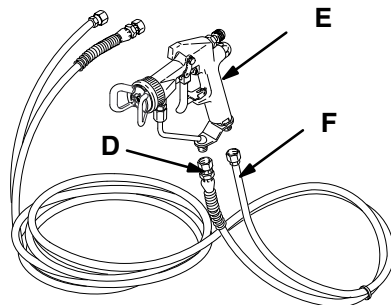

Fig. 6
2. Install a 101–180 Gauge (P) and 100–509 Plug (Q) on a 104–267 Air Regulator (R). Screw a 166–999 Elbow (S) into the outlet port of this air regulator, and screw a 162–453 Nipple (T) into the elbow.
3. Screw the branch of the 103–475 Tee (L) onto the nipple (24) at the air manifold (28). Install a 156–877 Nipple (M) in each open port of the tee. Screw a 158–683 Elbow (N) onto each nipple.
4. Install the air regulator removed in step 1 onto one of the elbows (N). This is the air control for the first gun. Install the air regulator assembled in step 2 onto the other elbow (N), so both regulators are facing the same way. This is the air control for the second gun.
5. Remove the plug (10) from the optional outlet port of the fluid filter (8). Install a 162–453 Nipple (T) in its place. See Detail A of Fig 6. This is the fluid connection for the second gun.
6. Connect the fluid and air hoses to the guns as explained on page 7 (see Detail E of Fig 6).
2. Remove the plug (10) from the top outlet port of the fluid filter (8). Install a 162–453 Nipple (T) in its place. See Detail B of Fig 6.
4. Screw a 103–048 Tee (U) into the optional inlet of the back pressure regulator (40), as shown in Detail D of Fig 6. Install the nipple (11) removed in step 3 in one of the open ports of the tee. Install a 162–453 Nipple (T) in the other open port.
5. Connect the fluid and air lines of one of the insulated hose kits (V) to the fluid and air inlets of one of the guns (E). Repeat for the other hose kit and gun. See Detail F of Fig 6.
6. Connect the air line of one of the hose kits (see Detail F of Fig. 6) to the outlet nipple of one of the air regulators (see Fig 5). Connect the air line of the second hose kit to the outlet nipple of the other air regulator.
7. Connect the fluid supply line of the first hose kit (V) to the outlet nipple (11) of the fluid filter (8). Connect the fluid supply line of the second hose kit to the other outlet nipple (T). See Detail B of Fig 6. Similarly, connect the fluid return lines of the two hose kits (V) to the inlet nipples (11 and T) of the back pressure regulator (40). See Detail D of Fig 6.